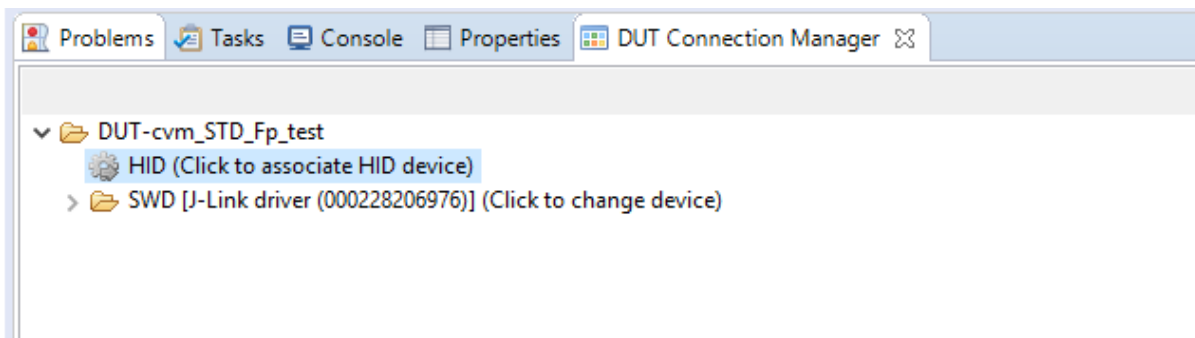

Figure 30: DUT Connection Manager View (for HID)
10. Now, Cola is disabled by default. In order to enable it, connect to the HID Interface by clicking on "DUT Connection Manager" tab and then click on "HID". (See Figure 30).